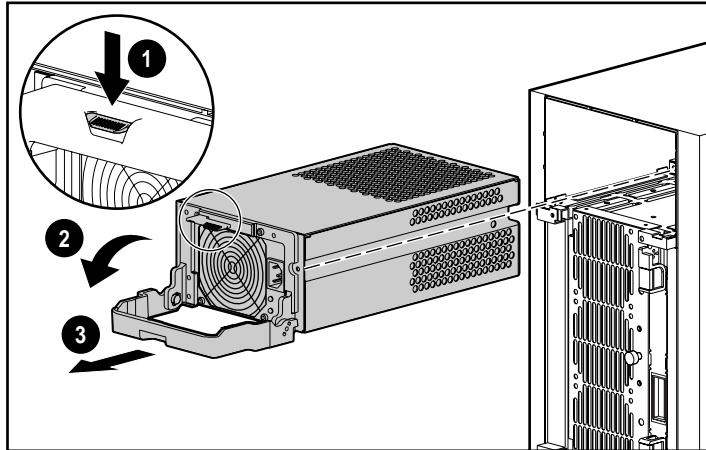

Figure 4-23. Removing the power supply
2. Press the catch on the power supply handle and pivot the handle open to release the power supply. Pull the supply from the chassis. See Figure 4-23.